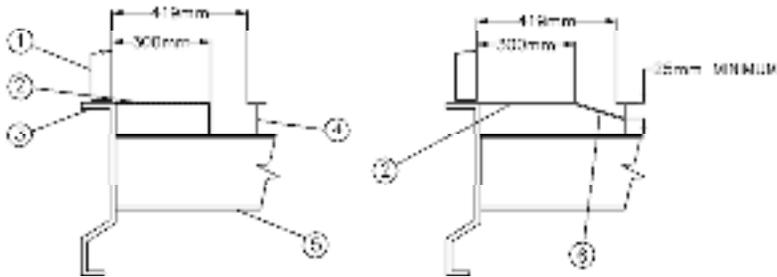

Figure 9
1. Determine the dimensions of the baffle plate (Figure 9).